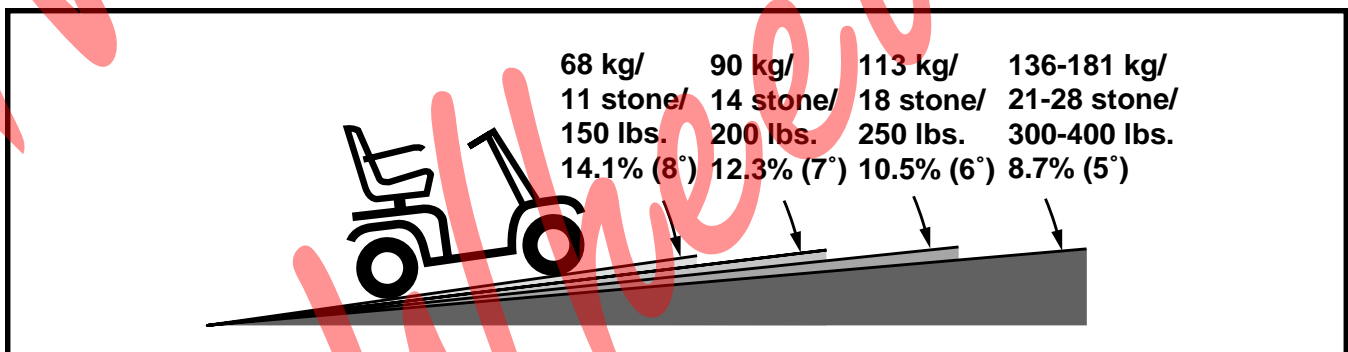

Figure 1. Maximum Recommended Incline Angles
**WARNING!** Even though your scooter is capable of climbing slopes greater than those illustrated in figure 1, do not, under any circumstances, exceed the incline guidelines or any other specifications presented in this manual. Doing so could cause instability in your scooter, resulting in personal injury and/or damage to your scooter.
Handicap public access ramps are not subject to government regulation in all countries, and therefore do not necessarily share the same standard percent of slope. Other inclines may be natural or, if man-made, not designed specifically for scooters. Figure 1 illustrates your scooter's stability and its ability to climb grades under various weight loads and under controlled testing conditions.
**WARNING!** Any attempt to climb or descend a slope steeper than what is shown in figure 1 may put your scooter in an unstable position and cause it to tip, resulting in personal injury.